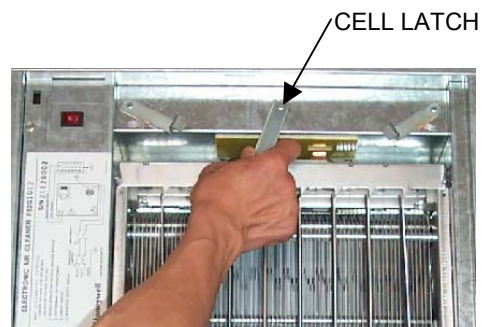

Fig. 12. Turn cell latch to lock in place.
2. Swing the cell into the frame and turn the cell latches to lock the cell in place. See Fig. 12.